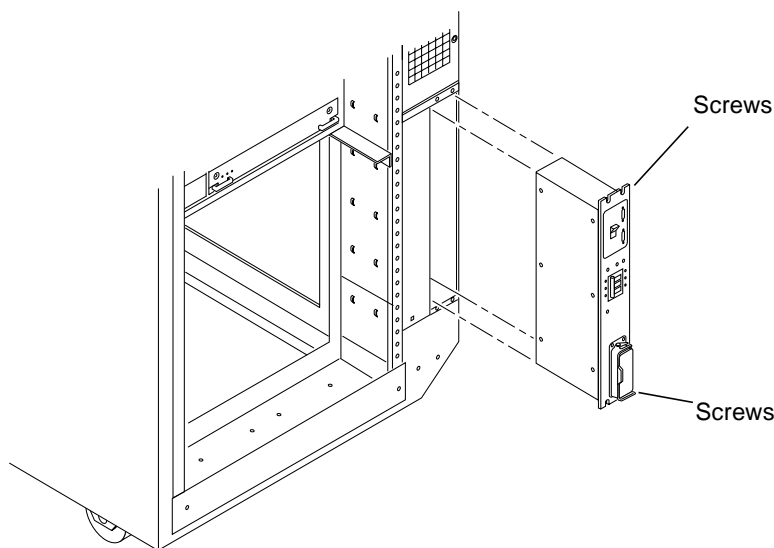

FIGURE E-3 Replacing the main Power Sequencer
5. Remove the two screws at the top of the power sequencer (FIGURE E-3).
- 3. Replace the two screws at the bottom of the power sequencer (FIGURE E-3).**